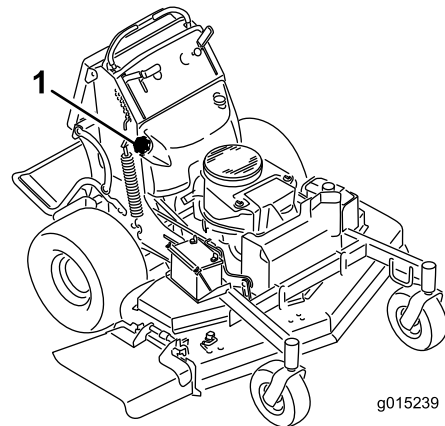

Figure 51
5. Using the syphon pump, drain the fuel into a clean gas can (Figure 51).